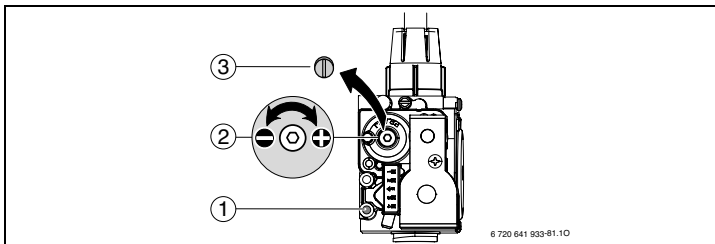
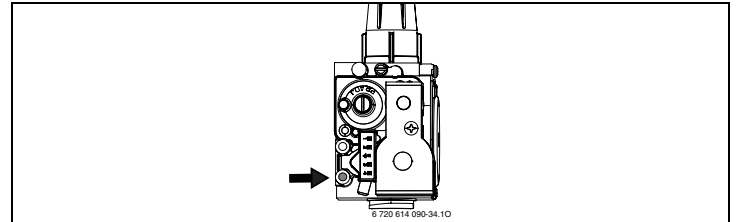

Fig. 6 Set minimum nominal output
Fig. 8 Check inlet gas pressure
- ▶ Remove the sealed screw (→ Fig. 6, [3]) from gas valve adjustment screw (→ Fig. 6, [2]) and set CO₂ or O₂ level for minimum nominal output.
- ▶ Reinstall the screw (→ Fig. 6, [3]) to cover the gas valve adjustment screw.
- ▶ Loosen the screw in the test port for gas inlet pressure (→ Fig. 6, [1]) and connect a pressure gauge (→ Fig. 8).